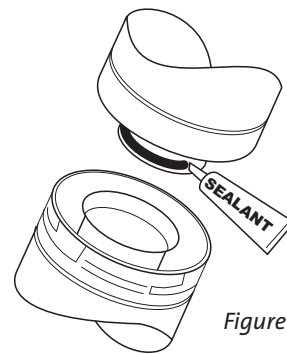

Figure 6.
- **JOINT SEALING REQUIREMENT:** APPLY A 1/8" BEAD OF HIGH-TEMPERATURE SEALANT OR MIL-PAC® TO THE MALE SECTION OF THE INNER VENT PIPE. THE CEMENT SHOULD FORM A SEAL BETWEEN THE INNER AND OUTER PIPES. **DO NOT USE SILICONE.** SEE FIG. 6. SEE VENT MANUFACTURER'S INSTRUCTIONS.